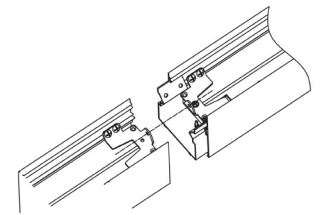

Fig. 16
3. Connect the electrical wires (refer to the wiring diagram), slide the fixtures and or corner connectors together (A to B). Join the connection kit, centering it between the fixtures and or corner connectors, and put the remaining screw in place. (Fig 16)